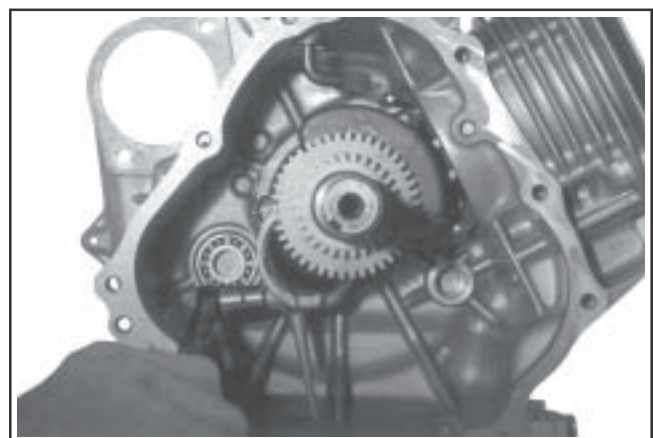

Figure 11-14. Rod Cap/Dipper Position.
- Install the connecting rod cap to the connecting rod so the dipper is down, and the match marks are aligned. See Figure 11-14.